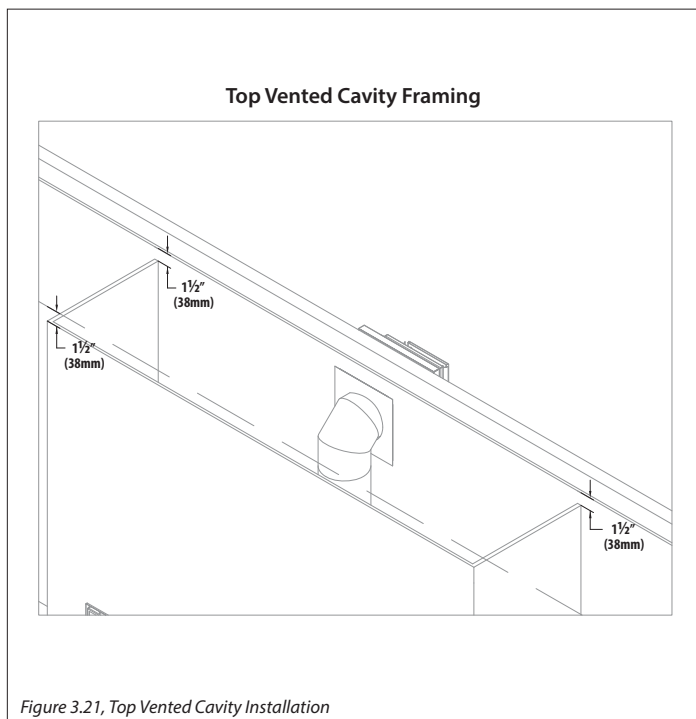

Figure 3.21, Top Vented Cavity Installation
- Figure 3.21 shows the fireplace chamber ending 1-1/2" from the ceiling on all three sides with the entire top of the chamber 1-1/2" from the ceiling.